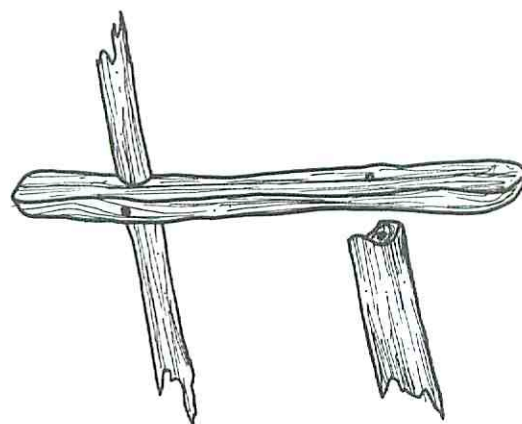
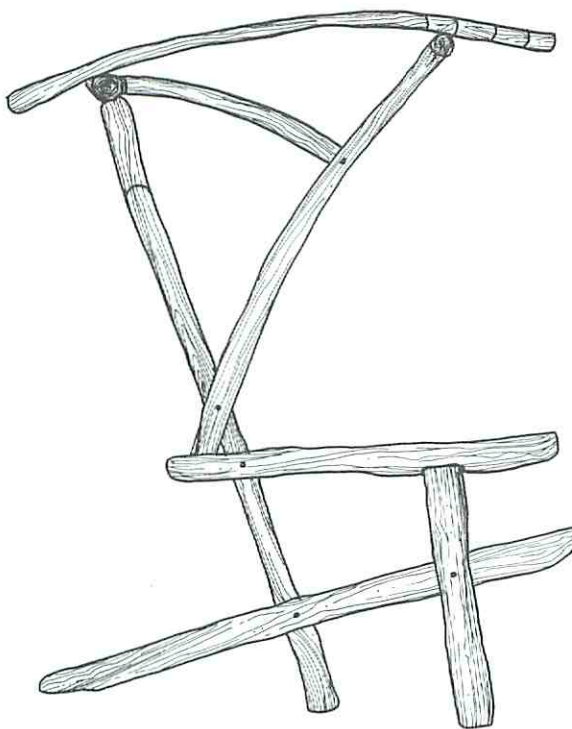

Figure 2
Figure 3
To create a secure fit to the back legs, the arms (F) will have to be notched near the back. See Fig. 2. Notching may also be required to fit the arms to the front legs. Attach the arms to the frame as shown in Fig. 3. Remember that the arms should either have a slight slope back or be parallel to the ground. Predrill holes in the pieces and lag bolt the arms into place.
Have a look at Figs. 3 and 4 and refer to them for guidance whenever needed. Start with one side of the chair – I began with the right side – and lay out the pieces on the ground to get a sense of where each one will be going and how they'll all fit together. You may need to cut down the hood brace somewhat to get the correct fit.